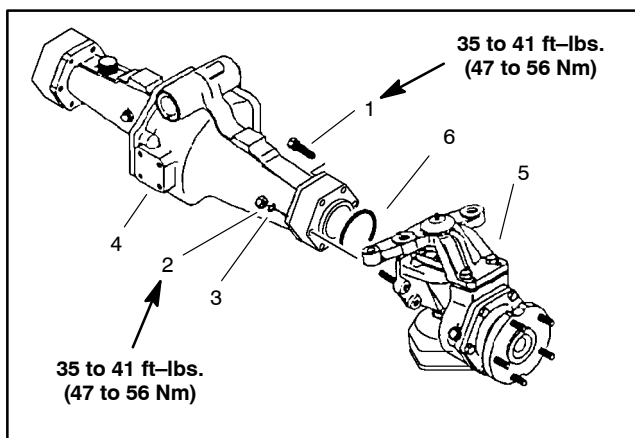

Figure 3
1. Remove the mounting screws, nuts, and lock washers. Remove the bevel gear case/axle case assembly and O-ring from the axle support (Fig. 3).